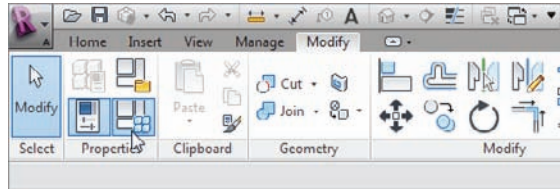

FIGURE 17.8 The Family Types button on the Properties panel
1. On the Properties panel, and click the Family Types button, as shown to the left in Figure 17.8.